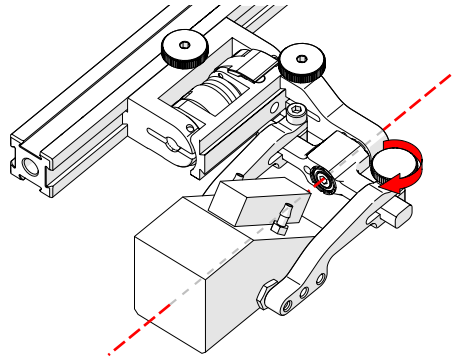

Fig. 93 - Pinch wedge with arm
9. Tighten the probe holder arm adjustment knob (Fig. 93).